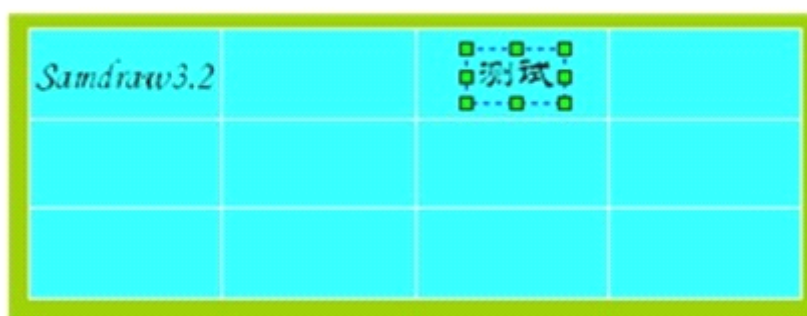

Figure 4-46: An example of a table drawn
- After modifying the table properties, click OK button to close the dialog. Then, in the picture editing window the mouse will become . Move the mouse to a position where the table will be displayed, left click the mouse and drag it to another appropriate position before left clicking again. The system will automatically draw a table. See Figure 4-46.